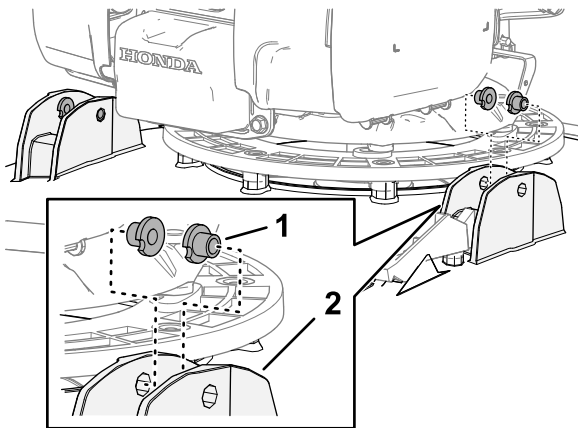

Figure 3
1. Insert 2 handle spacers into each of the handlebar flanges on the mower deck (Figure 3).